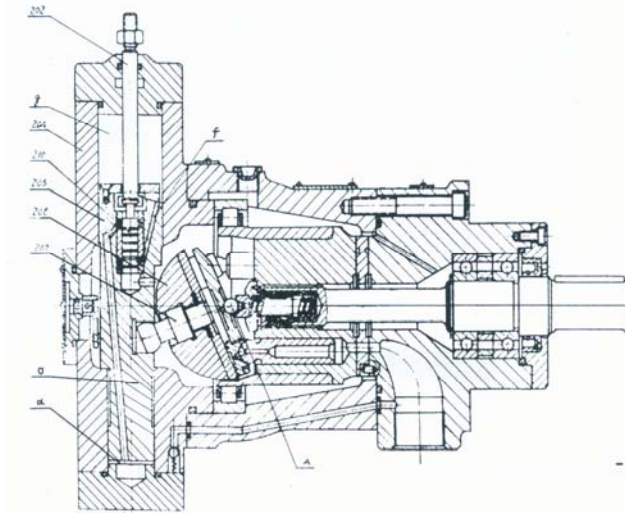

Figure 4 CCY14-1B Mechanical Servo Variable Displacement Axial Piston Pump
4.4 CCY14-1B type (servo variable displacement) axial pump (Figure4)